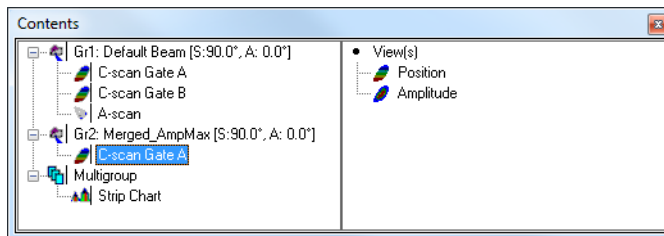

Figure 7-28 Example of the C-scan merge group created
5. To display the merged group (see Figure 7-28 on page 367):